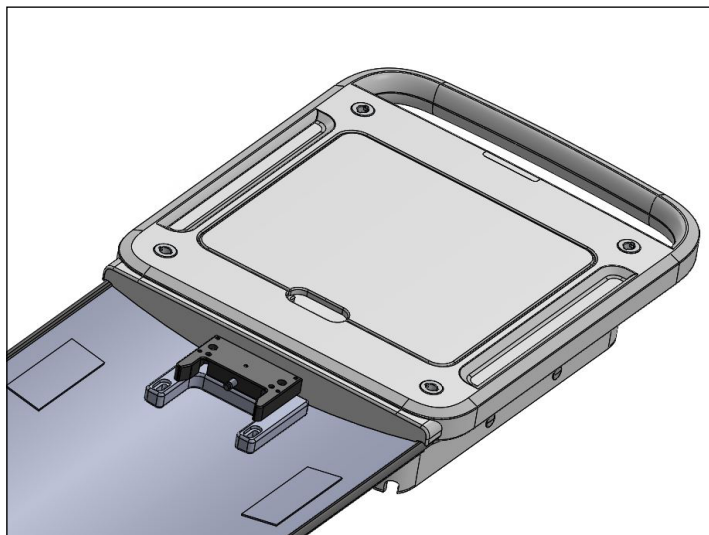
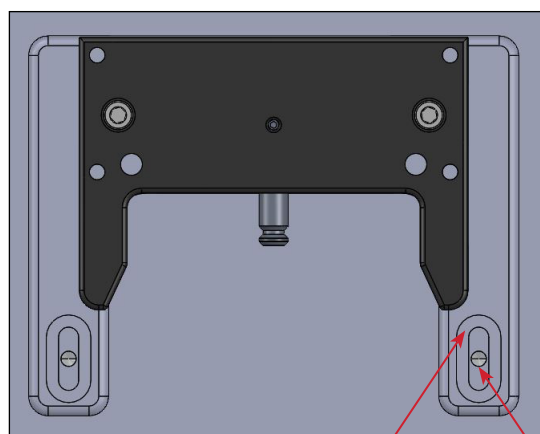

Fig. 26
Fig. 27
2. Place Foot End Mounting Assembly on the CT cradle so that it is all the way at the back of the cradle (Fig. 26). Align the slots on the Foot End Mounting Assembly with the screw holes on the cradle (Fig. 27).